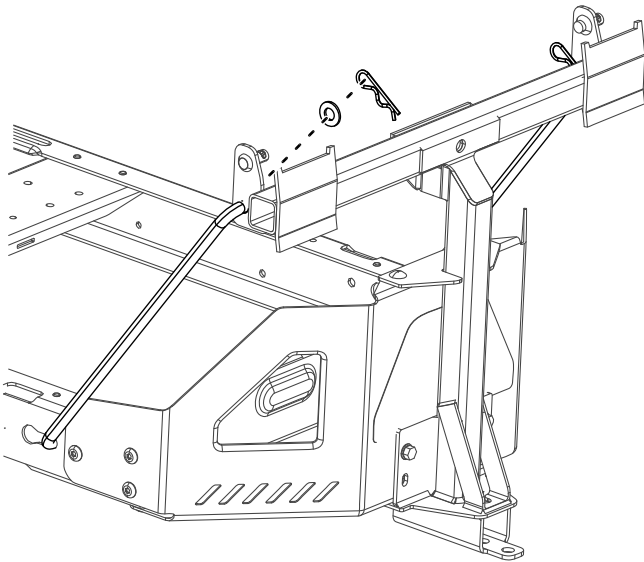

Figure 12
4. Install the bent, flared end of a rod into the keyed slot in the left side of the machine frame, and move the rod rearward to seat it in the frame (Figure 12).
5. Insert the bent ends of the rods into the attachment mount as shown in Figure 12 and secure the end of each rod with a washer and hairpin cotter.
2. Install the pivot brackets onto the pivot frame (Figure 12).